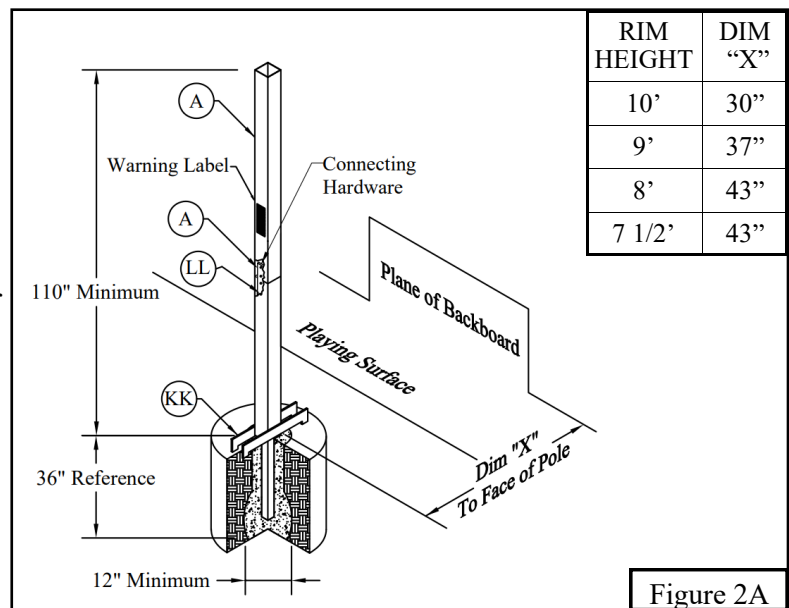
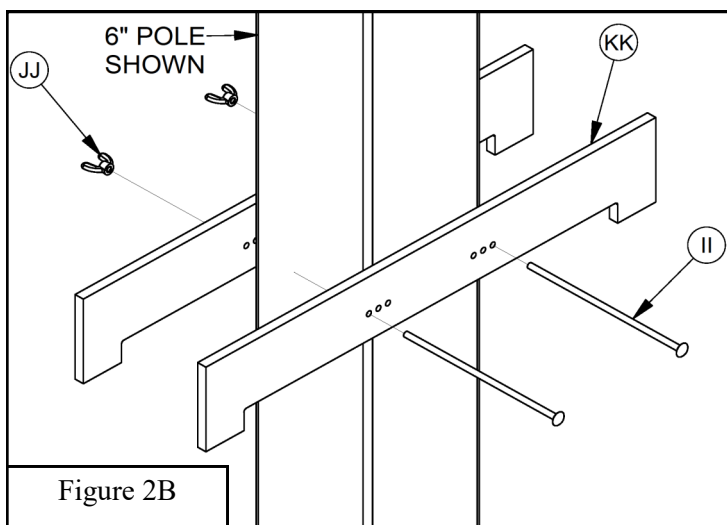

Figure 2A
Figure 2B
2. Determine the desired position of the pole by taking into consideration that the distance between the face of the pole and the face of the backboard changes as the rim height is adjusted. At the top position (official 10' rim height) this distance is approximately 30" and at the lowest point is approximately 43". See Figure 2A.
- 9a. Dig a 12" minimum diameter hole at least 36" deep. Remove additional soil from the bottom 1/3 - 1/2 of the hole into a bell shape. In heavy frost climates a deeper footing will increase pole stability. The amount of *Premix Concrete* (GG) required will depend on final hole size. A 12" diameter x 36" deep hole with additional soil removed will take approximately 3 cubic feet of concrete. Always better to have too much rather than too little on site.
- 10a. Using the two 1/4" x 8" *Carriage Bolts* (II) and 1/4" *Wing Nuts* (JJ) provided, sandwich the two *Pre-Drilled Wooden Panels* (KK) around the pole assembly at a location where the square pole will protrude from the footing. Use the set of holes in the *Pre-Drilled Wooden Panels* (KK) that are closest to the side of the pole assembly depending on pole size. Position them as shown in the illustration to allow clearance above the concrete footing. See Figures 2A and 2B.
- 11a. Tension the 1/4" *Wing Nuts* (JJ) so that the wood cannot move up or down on the pole once you are satisfied that the pole assembly is protruding above the court surface the height specified. See Figure 2B.
- 12a. Adjustment of the angle of the *Pre-Drilled Panels* (KK) on the pole to match the ground surface adjacent to the footing by slightly loosening and re-tightening the *1/4" Wing Nuts* (JJ) will help keep the pole assembly plumb while concrete is curing.
- 13a. Fill the hole to the top with medium wet, fully mixed concrete. Never use the *Premix Concrete* (GG) dry.
- 14a. Insert the pole assembly into the center of the footing making sure that one set of the *1/2" x 3/4" Button Head Screws* (LL) are on the back side of the pole assembly and the flat front face of the pole assembly is square to the playing surface. **POSITION OF THE SCREWS IS CRITICAL TO THE RIGIDITY OF THE POLE.**
- 15a. While the concrete is still wet and the pole assembly is moveable, adjust the *Pole Installation Kit* (II, JJ, KK) on the pole assembly to help maintain the top of the pole assembly at 110" from the playing surface, plumb in both directions and with the front face parallel to the playing surface. See Figure 2A.
- 16a. Filling the inside of the pole assembly with wet *Premix Concrete* (GG) will increase pole assembly stability and require additional *Premix Concrete* (GG).
- 18a. Discard the *Pole Installation Kit* (II, JJ, KK) once footing is cured and install the *Warning Label* (WW) at eyelevel on the rear of the pole. **IF YOUR WARNING LABEL BECOMES DAMAGED OR UNREADABLE, REQUEST A NO COST REPLACEMENT.**
23. Using a marker or masking tape, mark the pole assembly 84" above the actual playing surface. See Figure 2A.